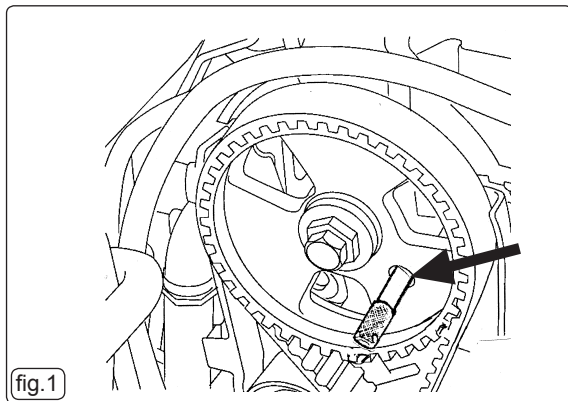

fig.1
- 3.2.2 Insert VS4735.P17 Camshaft Locking Pin (fig.1).